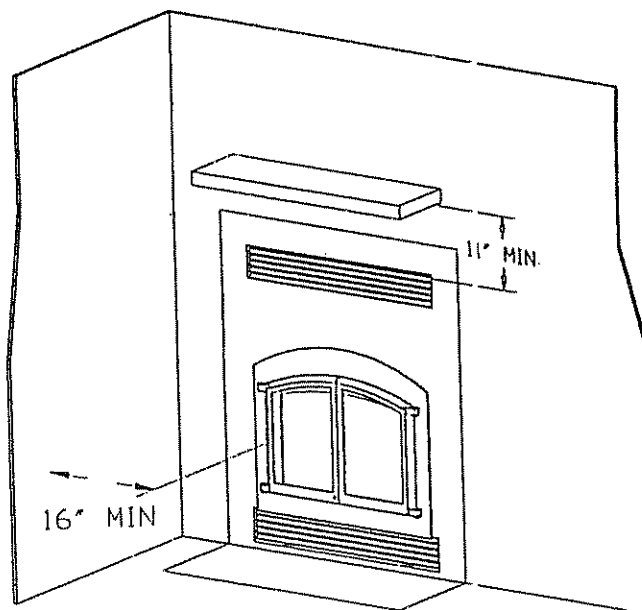

Figure 10
1. Frame in the fireplace. See figure 10. Maintain the necessary clearances to combustibles. The framing materials should not come in actual contact with the fireplace. If installing a mantel, (a combustible mantel may be used), maintain an 11"(280mm) clearance to the upper grill. The mantel should be no more than 6" deep.
If installing with an exposed face, or using "thin brick", place the facing material behind the fireplace face flange. See figure 10 for proper clearances. Exposed face installations should now go to Section J.